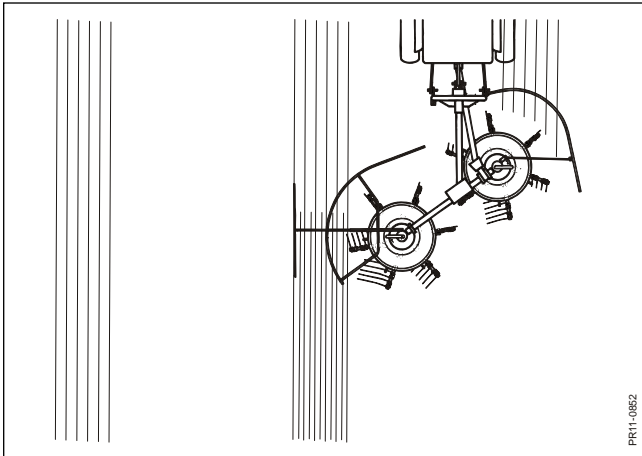

Fig. 3-25
**Fig. 3-25** after max. 11' mower or combined harvester.